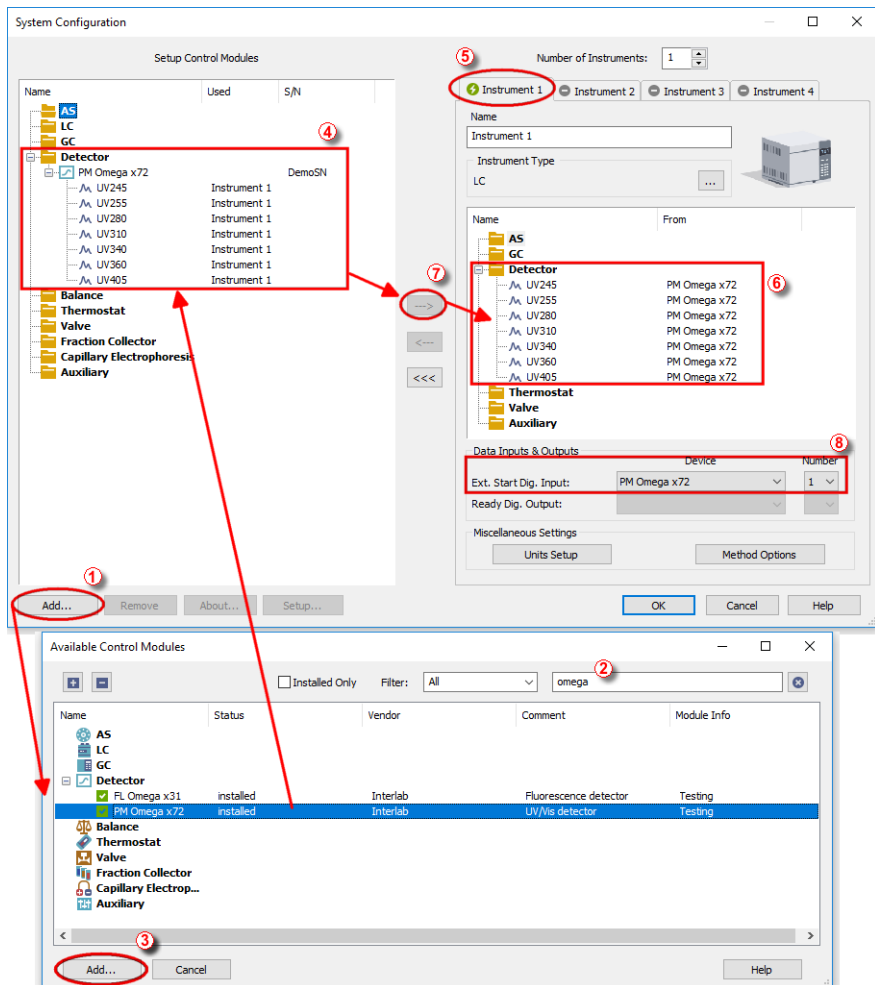

Fig 2: System Configuration - UV-Vis Detector
- Press the *Add* button ① (see **Fig 2** on pg **4.**) to invoke the **Available Control Modules** dialog.
- You can specify the searching filter ② to simplify the finding of the driver.
- Select the **PM Omega x72** and press the *Add* ③ button.